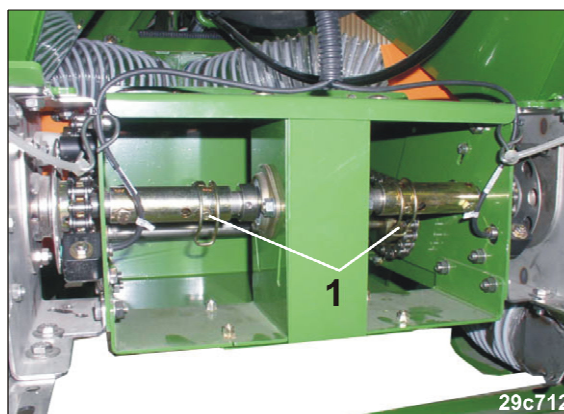

Fig. 154
4. Remove one of the two linch pins (Fig. 154/1).